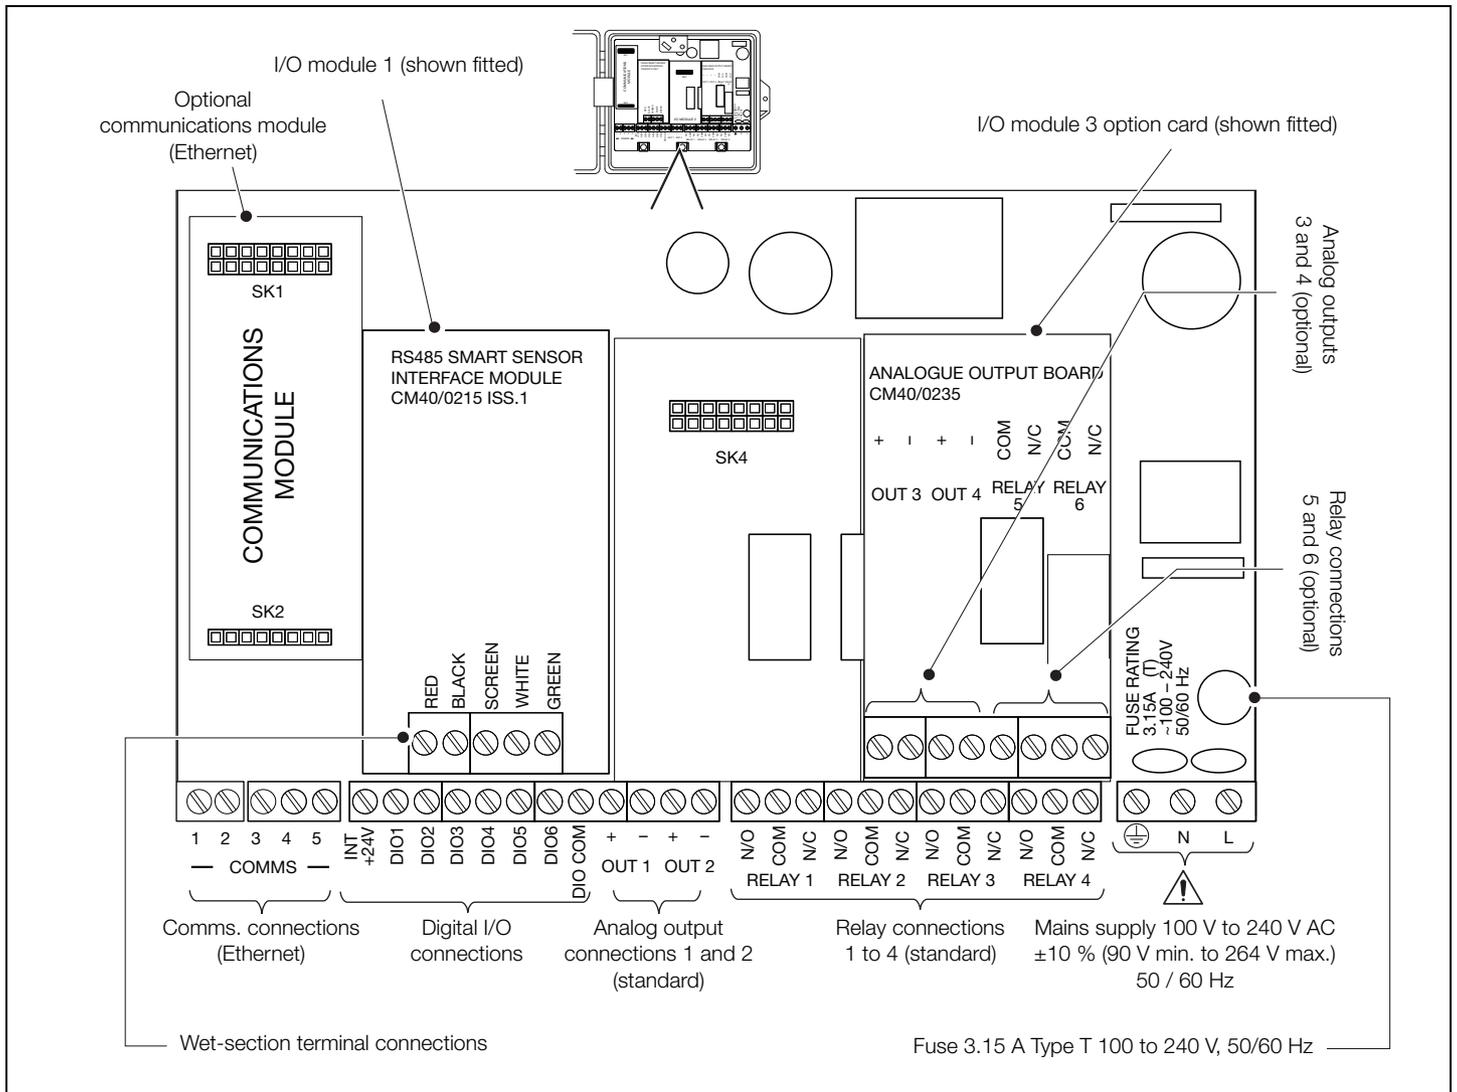

Fig. 6 Transmitter connection board
- Ensure the correct fuses are fitted – see Fig. 6 for fuse details.
1. Using a pozi-drive screwdriver, turn the (captive) electronics section door retaining screw (A) 1/4 turn counter-clockwise and open the door.
2. Turn the cover plate retaining screw (B) anti-clockwise until the cover plate (C) can be removed.
3. Make connections to transmitter connection board terminals – see Fig. 6.
4. Refit cover plate (C) and secure it by turning retaining screw (B) clockwise until finger-tight. Close the door to the electronics section and turn door retaining screw (A) 1/4 turn clockwise to secure.